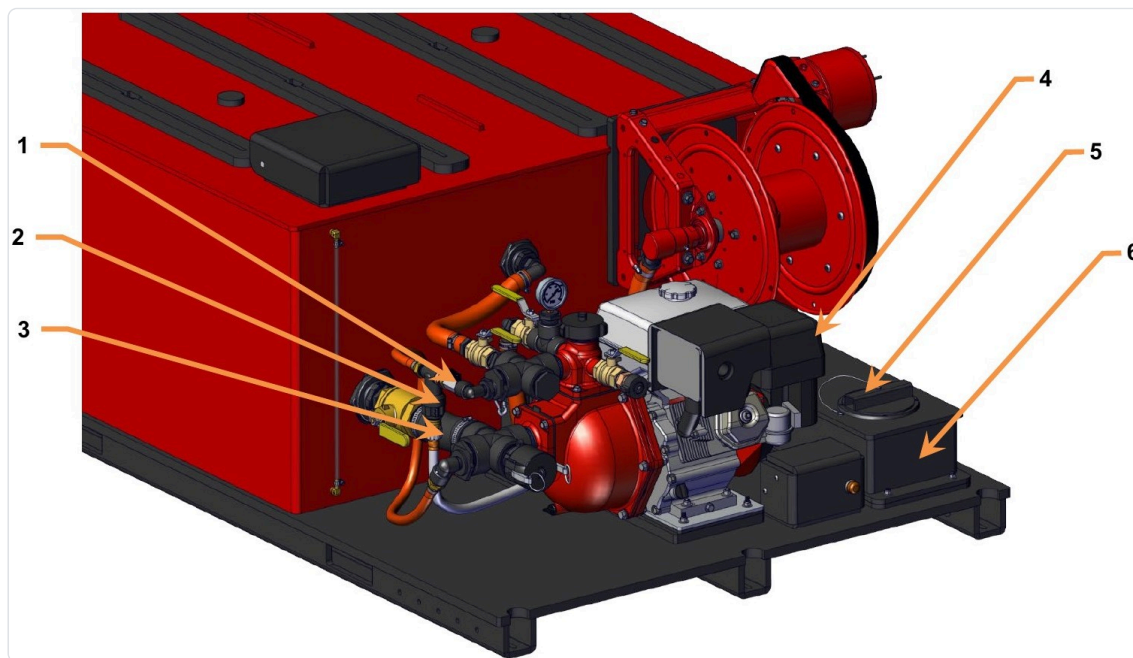

Figure 13. Typical plumbing for the optional around-the-pump (ATP) foam kit
2. Make sure there is enough foam concentrate in the foam tank (Figure 13, Item 6).
4. Set the foam proportioner to the desired concentrate percentage (Figure 13, Item 2).
7. Open the Foam Supply valve (Figure 13, Item 4) and the Proportioner Pressure valve (Figure 13, Item 1).
1. Close the Foam Supply valve (*Figure 13, Item 4*) and the Proportioner Pressure valve (*Figure 13, Item 1*).